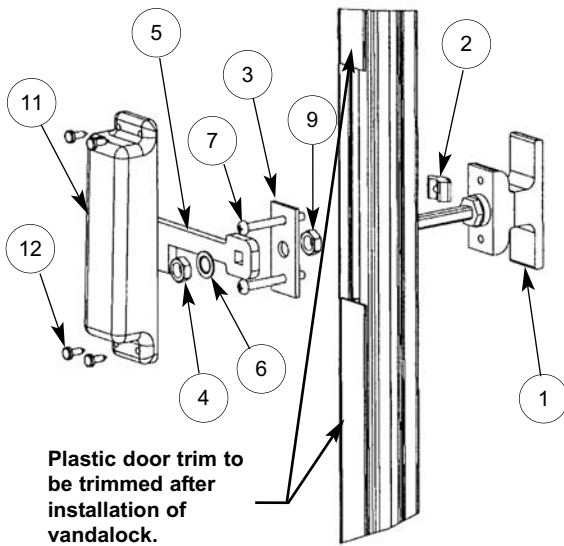

Figure 1
2. Remove vertical plastic snap-in trim on inside of both door leaves; center extrusion only. Retain to be re-installed. **Figures 1 & 2**
5. See **Figures 1 & 2** for assembly of the door handle and cover to extrusion.
8. Install the two (2) plastic Pawl Covers, #TBB 64008950 pictured in **Figures 1 & 2**.